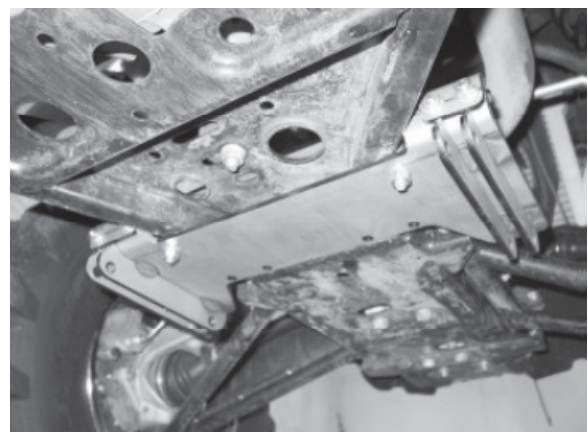

Figure 1 Install Bolts on Plow Mount Plate
1. Place the clamp plate over the top of the ATV frame just behind the front wheels. It may be necessary to loosen the four (4) differential bolts to give the drive shaft some flexibility. Retighten after the clamp plate is in place.
2. Place the plow mount plate under the vehicle just below the clamp plate and behind the lip on the front skid plate as shown in figure 1.
4. Slide the four 1/4" dia x 3/4" long bolts through the plow mount plate and clamp plate. Terminate the bolts with a 1/4" dia flat washer and 1/4" dia nylock nut as shown in figure 1.